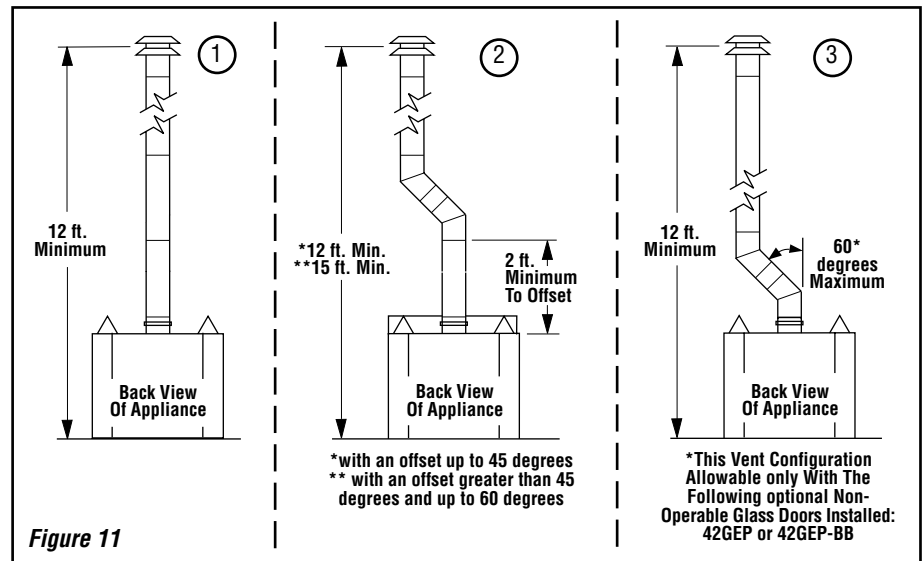

Figure 11
B. The following venting configurations may be installed (**see Figure 11**):
① - **Vertical** - Minimum overall height of the vent system and appliance without an offset must be 12' (3.66 m)
② - **With Offset**
③ - **With Offset**, when using the optional, 42GEP or 42GEP-BB, non-operable glass doors